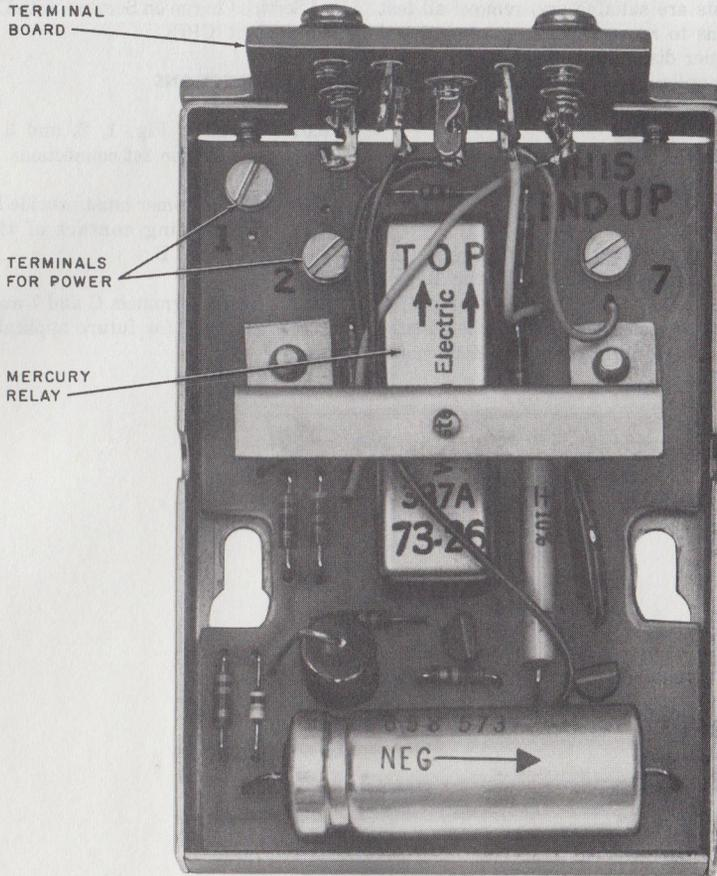

Fig. 1—23A Coupler, Front View (Cover Removed)
3.04 The 2012B transformer, when used, should be fastened to a 115-volt, 60-Hz ac outlet not under control of a wall switch. Run "D" inside wire leads and terminate on screw terminals 1 and 2 located on the printed circuit board. (See Fig. 1.) When a dc power unit is used, connect the positive lead to screw terminal 1 and the negative lead to screw terminal 2.
6.01 Refer to Fig. 1, 2, and 3 for power, line and station set connections.